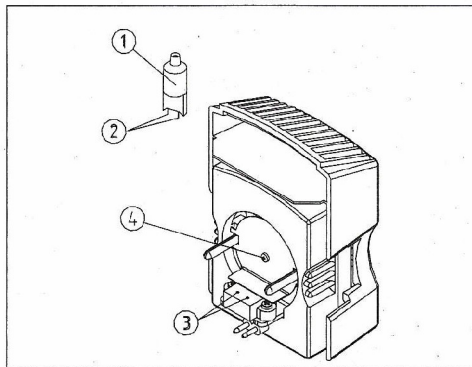

Fig.15
2. Hold to the bulb ①after you wrap it with gauze or other protection materials, then depress the plugs② into the jack③ on the lamp house, ensure the filament and the bolt④ are in a same level.(Fig.15)
Connect the power, turn on the main switch (figure 15) to “-”(on).